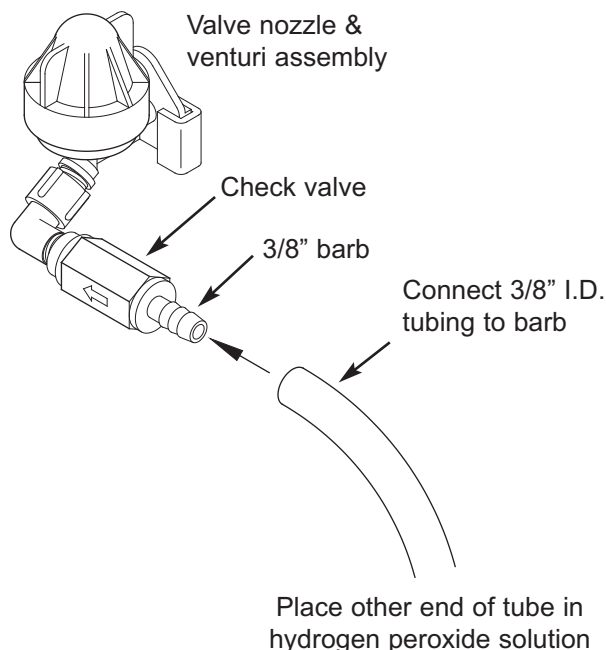

FIG. 15
3. Connect a length of 3/8 I.D. tubing to the barb on the aspirator check valve (See Figure 15).